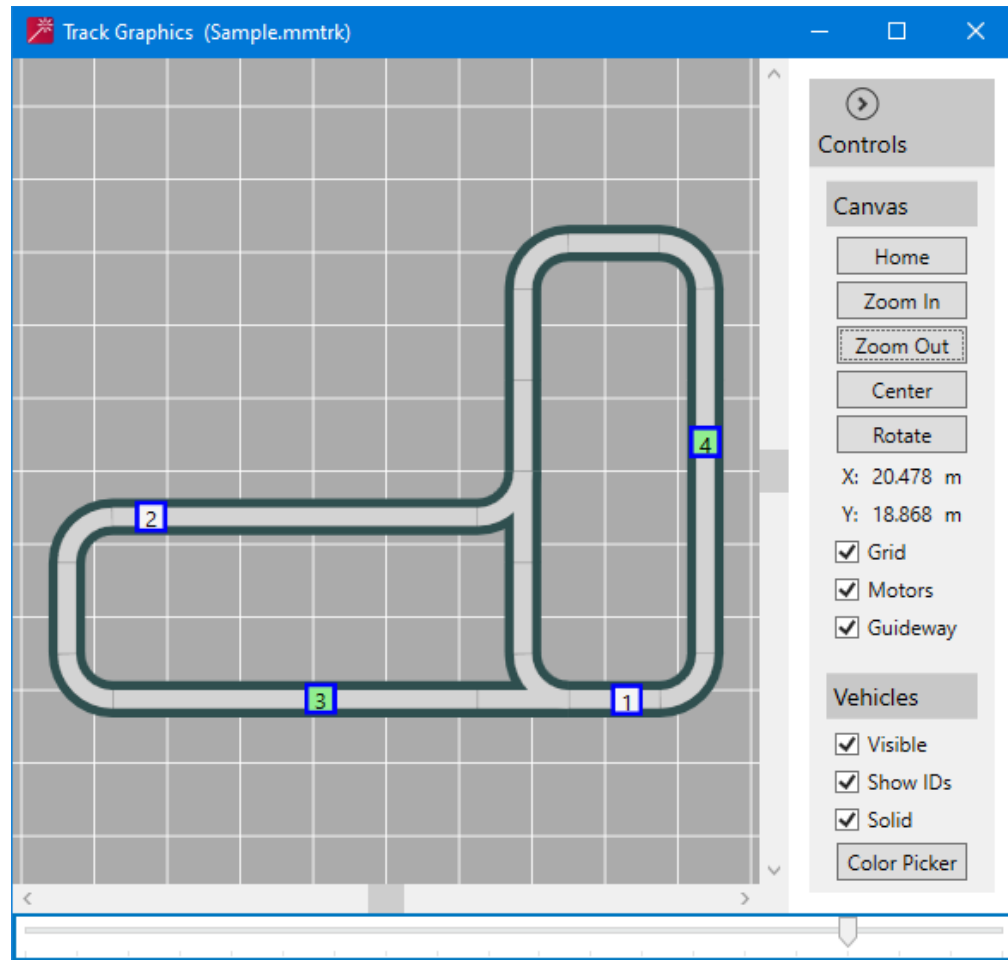

Figure 2-29: Track Graphics Window
*The selected file is loaded with the path and name of the file displayed in the Track File field. The **Track Graphics** window is displayed with the title of the Track File in the title bar and the loaded graphic centered in the graphics canvas (see *Figure 2-29*).*
This section describes how to select and perform host-related tasks in the transport system. These tasks include; system startup, creating test stations and traffic lights, testing digital I/O operation, selecting managed node controller configurations, and controlling the motor inverters. The examples in this section reference the transport system layout shown in Figure 2-29.